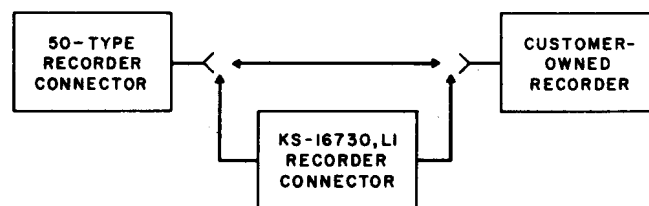

Fig. 1 — Block Diagram Showing Interconnection of Apparatus
2.04 The KS-16730, List 1 recorder connector, when required, is installed between the 50-type recorder connector and the customer-owned recording equipment. (See Fig. 1.)